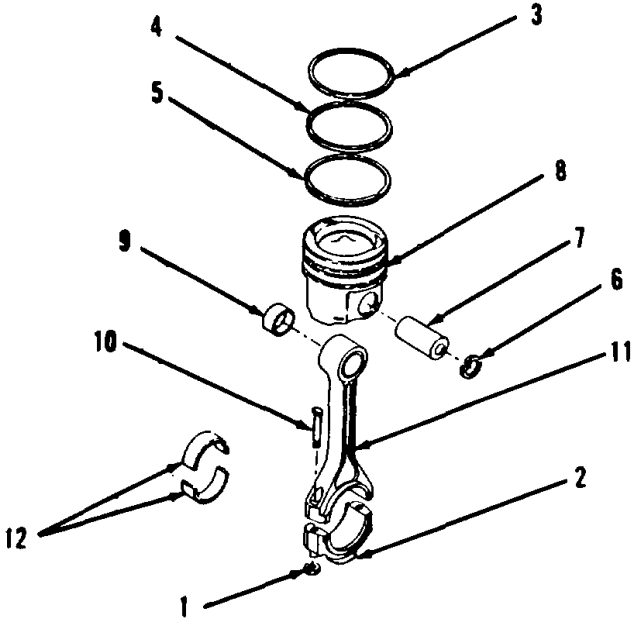

Figure 13-44.
- 1. Inspect cap (2) and connecting rod (11, Figure 13-44). Replace as an assembly if cracked, pitted, scored or excessively worn.
- 2. Inspect piston (8). Replace if cracked, scored, grooves damaged or signs of overheating.
- 3. Measure bore diameter of piston pin bearing (9). Use bore gage and measure in two places, 90 degrees apart. The correct dimension is 1.7012 inches. Replace piston pin bearing (9) if dimension is not correct.
- 4. Measure bore diameter in piston (8) for pin (7). Use bore gage and measure in two places, 90 degrees apart. The correct dimension is 1.07006 inches. Replace piston (8) if dimension is not correct.